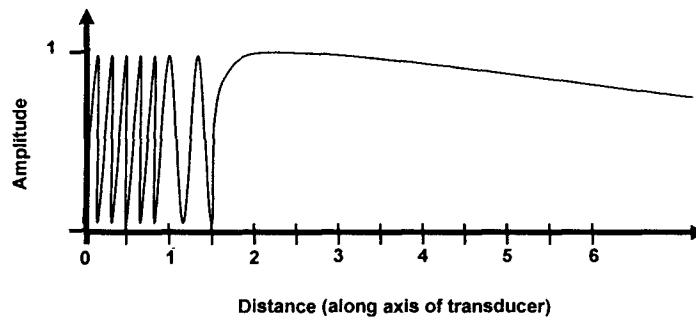
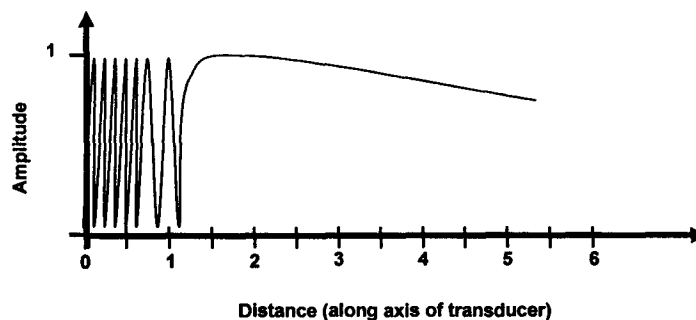

Figure 1
Figure 2
- [c] If the material used in this testing is water, sketch a line of near/far distance (N) and calculate the frequency of the radiated field of ultrasonic transducer in Fig. 1 and Fig. 2.